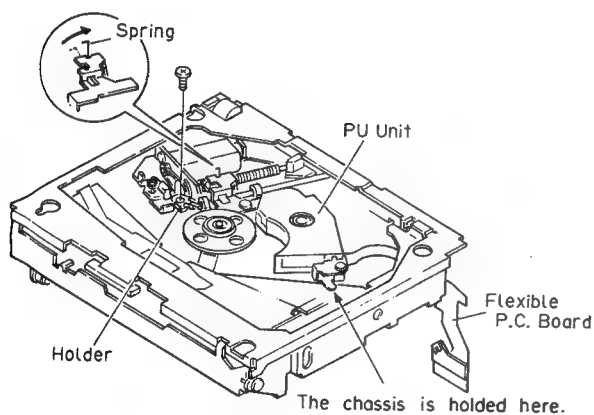

Fig. 11
7. Hook the spring as shown in the figure. (Fig.11)
8. Remove the holder and screw. (Fig.11)
9. Remove the flexible P.C. Board. (Fig.11)
10. Remove the PU Unit. (Fig.11)